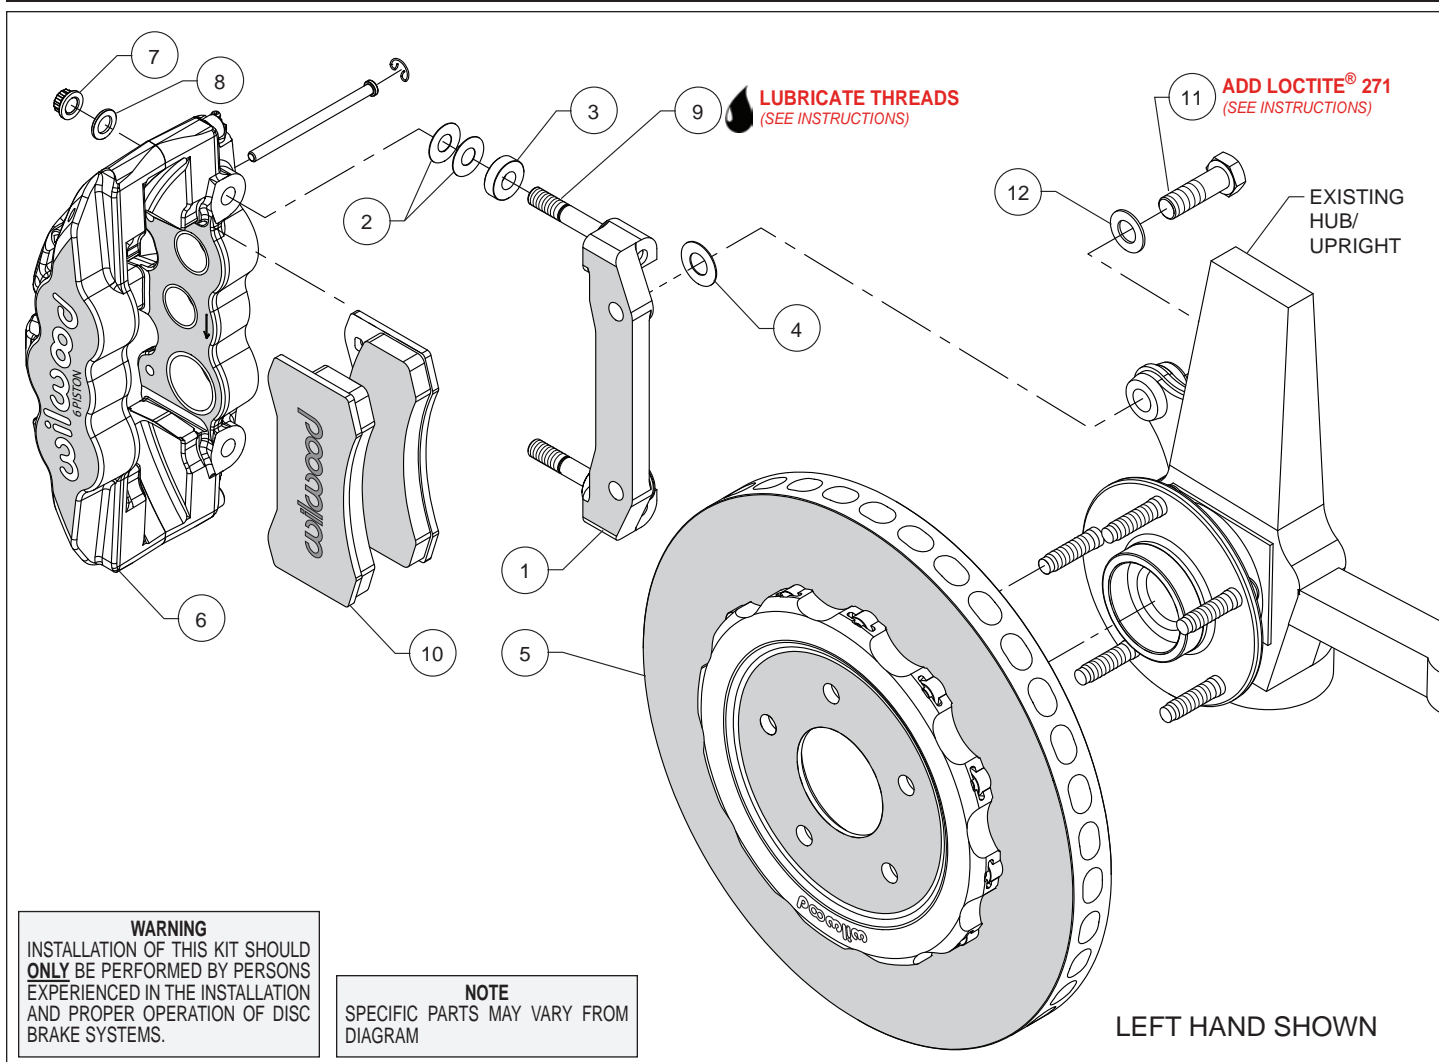

Figure 1. Typical Installation Configuration
- The caliper mount bracket (1) should initially be installed with clean, dry threads on the mounting bolts. Orient the bracket as shown in Figure 1 and Photo 1, and install bolts (11) and washers (12). Initially place one .029 thick shim (4) on each bolt between the bracket and upright, Figure 1. Temporarily tighten the mounting bolts. **NOTE:** *The bracket must fit squarely against the mount bosses on the upright.* Inspect for interference from casting irregularities, machining ridges, burrs, etc. Later, after the caliper alignment has been checked, the mount bolts will be secured using red *Loctite*[®] 271.
- Slide the hat/rotor assembly (5) onto the axle hub. **NOTE:** *The hat must fit flush against the axle hub flange or excessive rotor run out may result.* Install three lug nuts (finger tight) to keep the hat/rotor assembly in place while continuing with the installation.
- NOTE:** *This kit contains distinct right and left hand calipers that must be mounted in a specific direction, as described below.* Lubricate the caliper mounting studs (9) with lightweight oil. Initially place two .016" thick shims (2) and spacer (3) on each stud as shown in Figure 1 and Photo 2. Mount the caliper (6) onto the bracket (1) using lock nuts (7) and washers (8), Figure 1. Ensure that the caliper is mounted so that the largest pistons are at the rotor exit end of the caliper, in relation to the direction of rotor rotation. Temporarily tighten the lock nuts and view the rotor through the top opening of the caliper. The rotor should be centered in the caliper, Photo 3. If not, adjust by adding or subtracting shims (4) between the bracket and the upright. Always use the same amount of shims on each of the two mounting bolts. Once the caliper alignment is correct, remove the bracket mounting bolts (2) one at a time, apply red *Loctite*[®] 271 to the threads, and torque to 77 ft-lb.
- Remove the two pad retaining pins from the caliper by carefully popping out the pin retaining clips and sliding out the pins. Insert the brake pads (10) into the caliper from the bottom, Figure 1 and Photo 4, with the friction material facing the rotor and secure the brake pads in place with the pad retaining pins and clips, Photo 5. Reinstall the caliper onto the caliper mounting bracket and temporarily tighten the lock nuts. Check that the top of the brake pad is flush with the outside diameter of the rotor, Photo 6. If not, adjust by adding or subtracting shims (2) between the caliper and the bracket. After the caliper pad height is set, torque the caliper lock nuts (7) to 47 ft-lb.